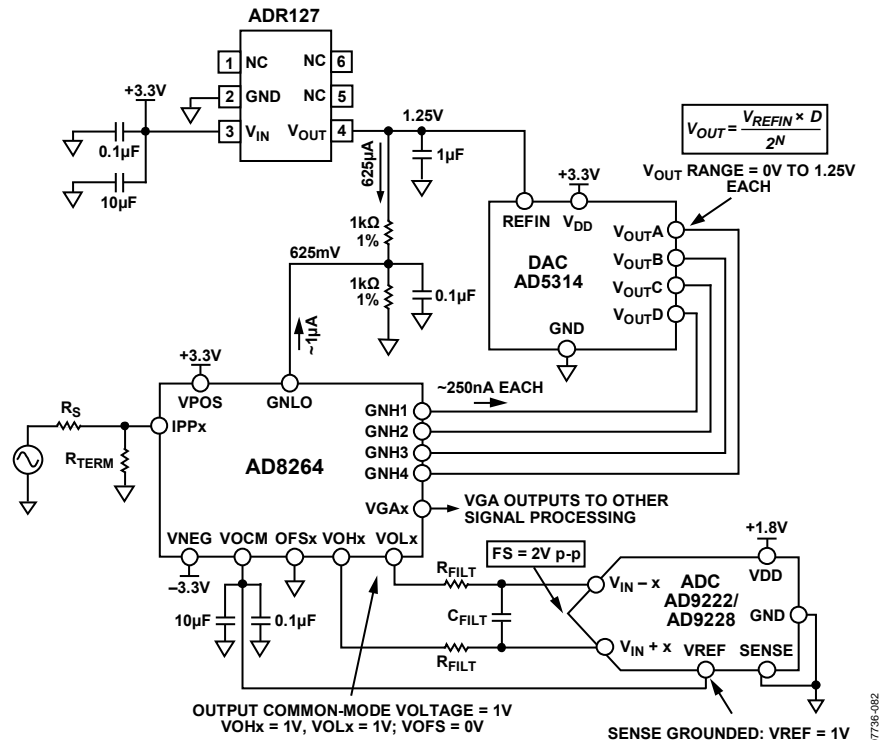
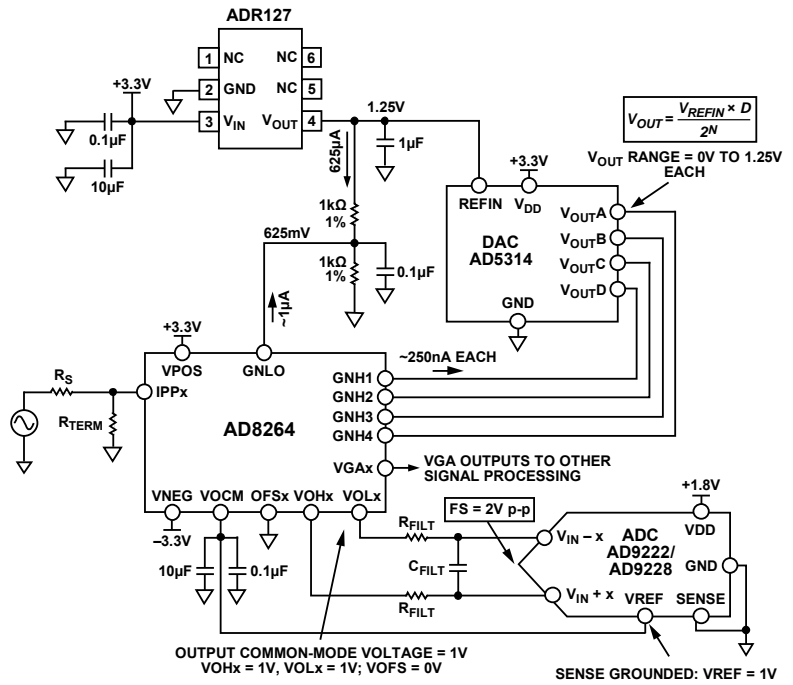

Figure 112. Application Concept of the AD8264 with the AD5314 10-Bit DAC and the AD9222/AD9228 12-Bit ADC
Figure 113. Concept Application of AD8264 with 40-Channel AD5381 12-Bit, 3 V DAC and AD9222/AD9228 12-Bit ADC
The AD8264 is particularly well suited for use in the analog front end of medical PET imaging systems. Figure 112 shows how to use the AD8264 with the AD5314 (a 4-channel, 10-bit DAC) and the AD9222/AD9228 (an octal or quad, 12-bit ADC, respectively). The DAC sets the gain of the AD8264. Note that the full gain span of 24 dB is achieved with this setup because the gain control input range of the AD8264 is very close to 1.25 V. The GNLO pin must offset by $1.25/2 = 625 \text{ mV}$ because the gain control input is bipolar around the voltage applied at GNLO. This is done with two 1 k Ω , 1% resistors. The approximately 1 μA of bias current flowing from the GNLO pin does not contribute a significant error because the basic gain error of the AD8264 is the limiting factor.
Figure 112 also includes the DAC output equation, which indicates that the output can vary between 0 V and $V_{\text{REF}} = 1.25 \text{ V}$.
The single-ended-to-differential amplifier of the AD8264 amplifies the VGA output signal by 6 dB and can provide the required dc bias of the AD9222/AD9228, as shown in Figure 112. The ADC is connected with the default internal reference because the SENSE pin is grounded. With this connection, the AD9222/AD9228 VREF pin is an output that provides 1 V; this is then connected to the VOCM input of the AD8264, which sets the output common-mode voltage of the VOHx and VOLx pins to 1 V. This voltage is very close to the recommended optimal value of $V_{\text{DD}}/2 = 0.9 \text{ V}$. With this configuration, the ADC inputs are set to a full-scale (FS) of 2 V p-p.
The dc connected concept example in Figure 113 is an application with the 40-channel AD5381, 3 V, 12-bit DAC. The main difference between this example and Figure 112 is that, for the same ADR127 1.25 V reference, the full-scale output of the DAC is from 0 V to $2 \times V_{REFIN} = 2.5$ V. Two options for gain control include the following:
- Use the same circuit as in Figure 112 but use only half the DAC output voltage from 0 V to 1.25 V. This is the simplest solution, requiring the fewest extra components. Note that the overall gain resolution increases by one bit to 11 bits over the 10-bit AD5314.
- Ground GNLO and scale the DAC output so that the GNHx inputs vary from -0.652 V to $+0.625$ V. Figure 113 shows a possible circuit implementation using a divider between the DAC output and a -1.25 V reference.
Figure 113 shows how the AD8264 is connected in a PET application. The PMT generates a negative-going current pulse that results in a voltage pulse at the preamplifier input and a differential output pulse on VOLx and VOHx.
A convenient method of verifying and customizing the signal chains shown in Figure 112 and Figure 113 is by ordering the corresponding evaluation boards available on www.analog.com. The AD8264-EVALZ is a platform through which the user can quickly become familiar with the features and performance capabilities of the AD8264. See the Evaluation Board section for more information.